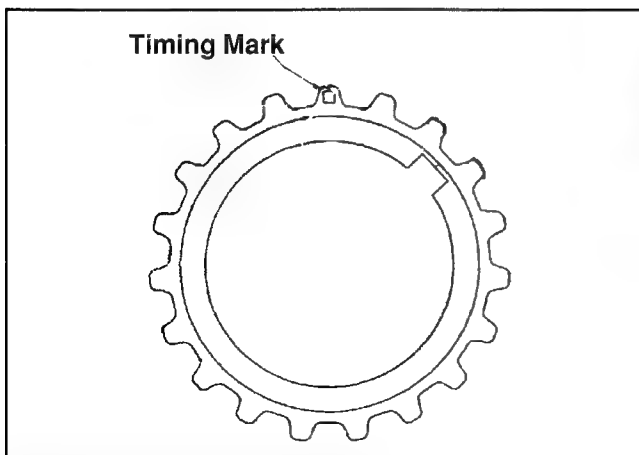

Figure 11-33. Setting #1 Cylinder at Top Dead Center.
4. Set the engine to top dead center (TDC) on the #1 cylinder. AT TDC, the third tooth counterclockwise from the keyway in crankshaft will be lined up with the point on crankcase. See Figure 11-33.